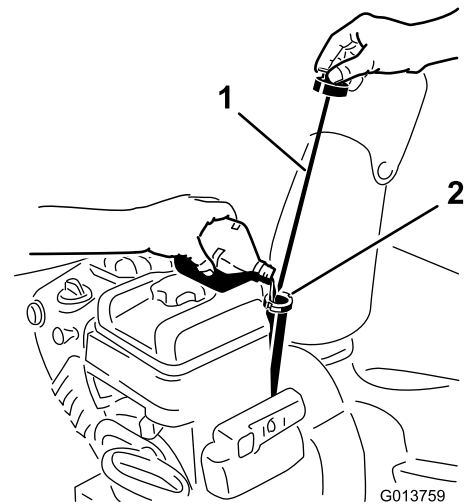

Figure 13
- Clean around the dipstick (Figure 13).